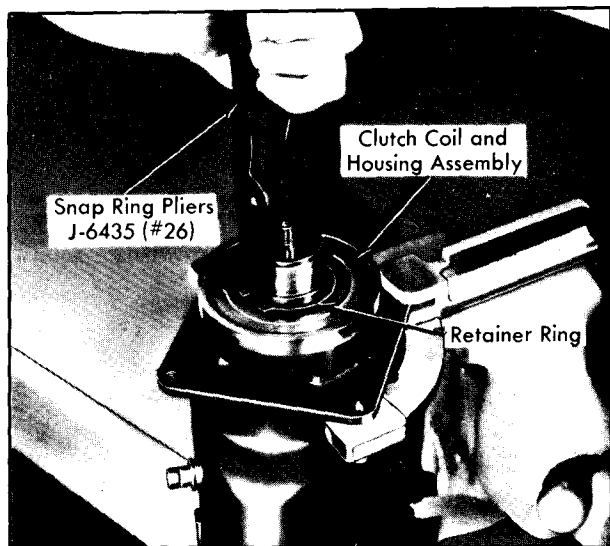

Figure 55—Removing Coil Housing Retainer Ring
3. Remove coil housing retaining ring using Snap-Ring Pliers J-6435 (figure 55).